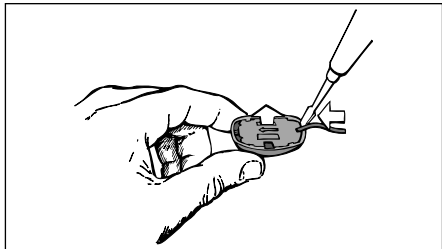

Fig. 8
1. Use a screwdriver to unsnap the bottom plate as shown in fig. 8 and remove the bottom plate.